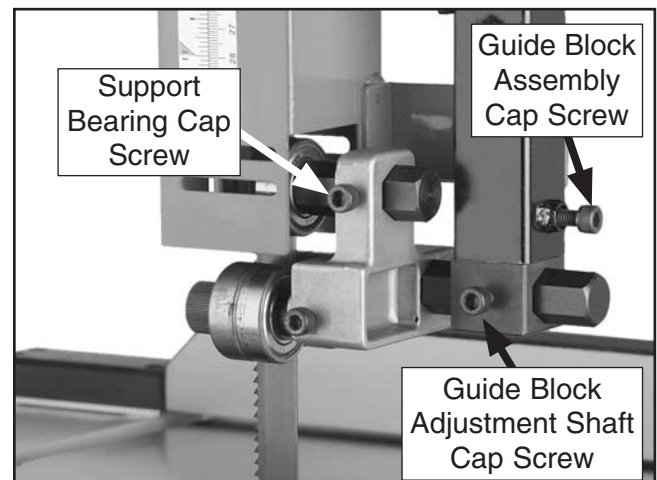

Figure 20. Upper support bearing controls.
3. Familiarize yourself with the upper support bearing controls shown in **Figure 20**.